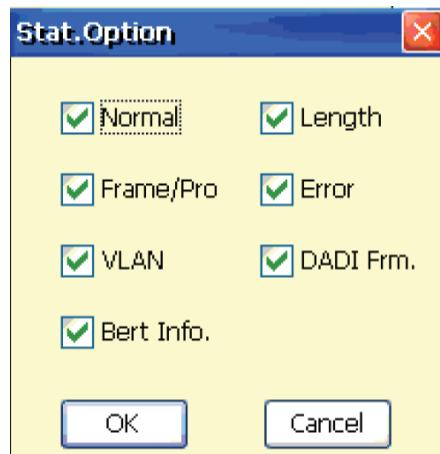

Figure 4.3.16 Traffic show
4. **【Show】** : set the traffic page show content according to user demand. As shown in Figure 4.3.16: